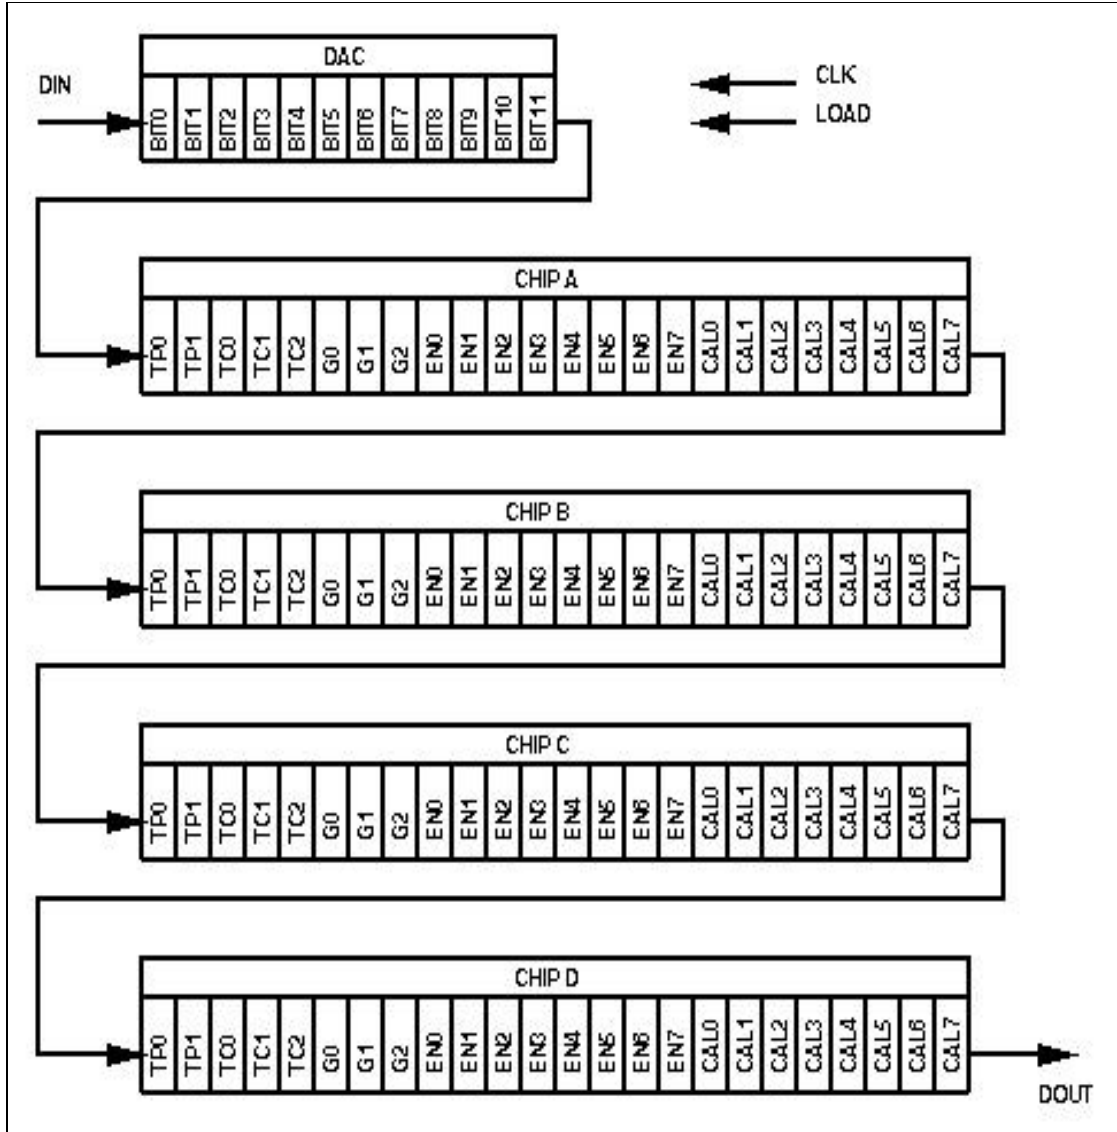

Figure 2
- The entire Serial stream for the TEC-PS board is as shown in Figure 2: